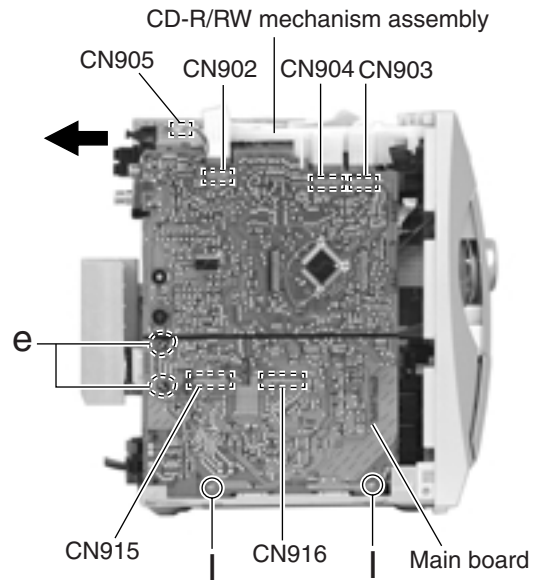

Fig.9
■ Removing the Main board/ the Heat sink board (See Fig.9 to 11)